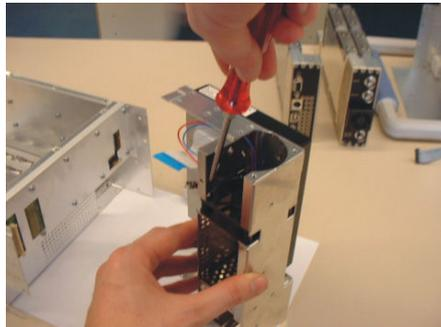

Figure 1-26
8. Undo 4 fan screws and remove with tweezers (see Figure 1-26).